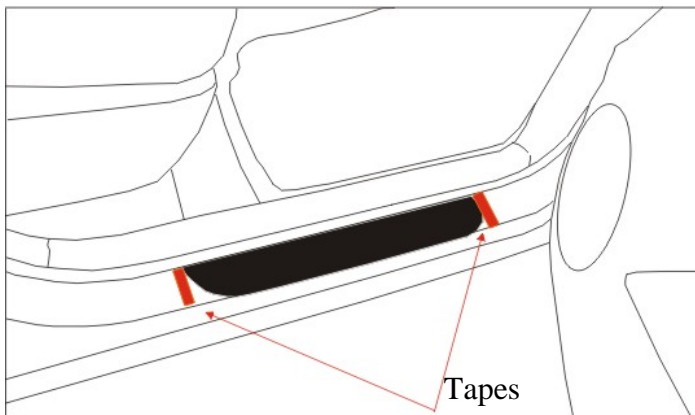

Fig. 2-1
- (a) Using the factory door sill plate as a guide, apply tape to the door sill surface at each end of the sill plate as shown. (Fig. 2-1)